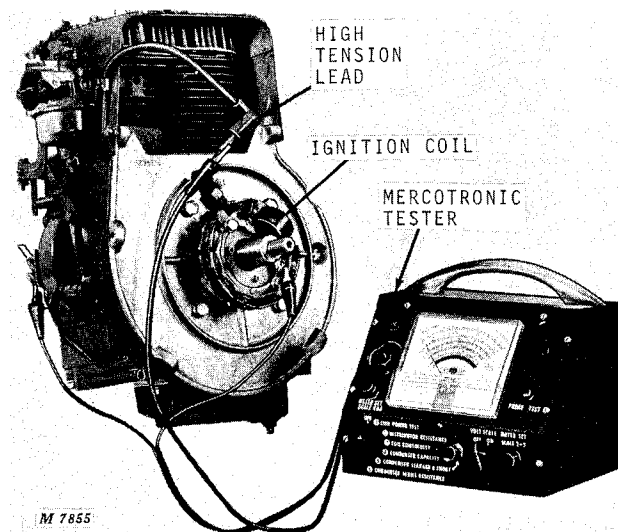

Fig. 15-Testing Coil Power
1. Coil power test, Figure 15
The test unit, Figure 15 can also be used to test the condenser. Follow manufacturer's recommendations to make the following condenser tests: